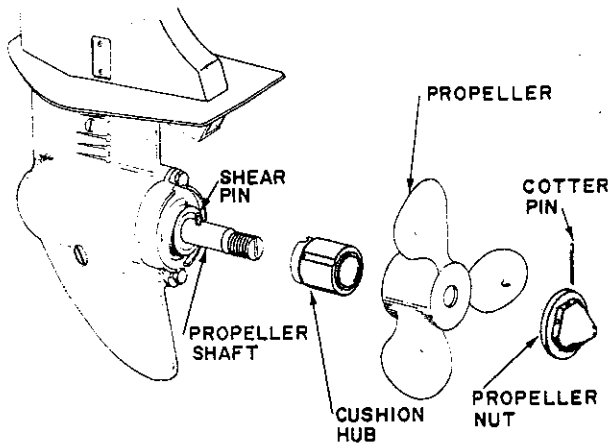

Figure 16. View showing propeller and shear pin typical of all models.
B. To repair, shut off motor, remove propeller cotter pin and nut. Slip off propeller and replace with new shear pin. (See Figure 16.)